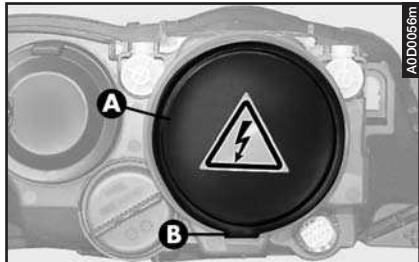

fig. 26
- Remove the rubber cap (**A**-fig. 26) by pulling the tab (**B**).